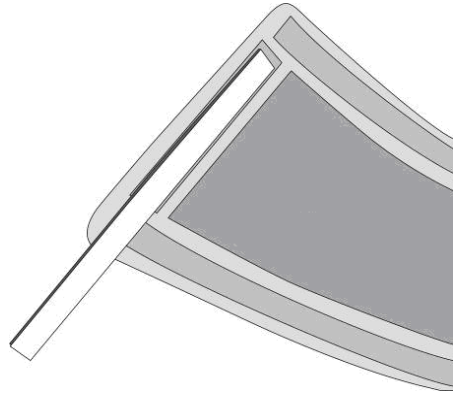

Figure10
- Apply tape: As noted above, tape is specified longer than actual part. When applying tape to part, leave approximately 3” overhang on each side of channels A,B & C. Leave approximately 3” overhang on one side of channels D and E (as shown in figure 10). The excess tape will be used to create leaders. Lay tape in channels, approximately 1 – 2: at a time, pressing down firmly as each section is laid into the channel. Use caution not to touch the adhesive to avoid transferring oils from your skin to the adhesive.